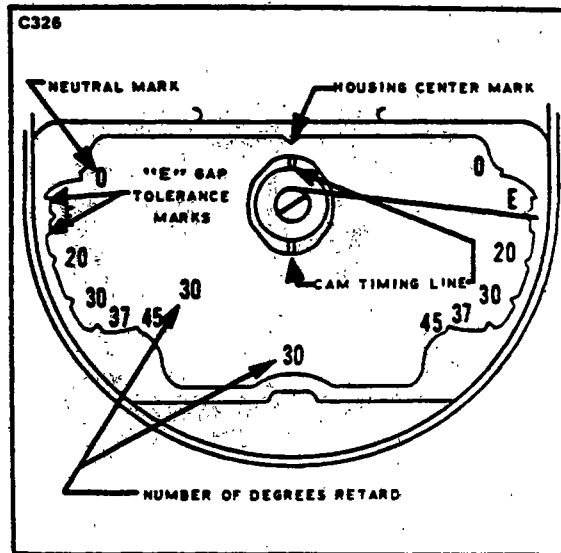

Figure 8-19. Breaker Compartment with Cast Timing Marks
e. If magneto is type which has "cast in" timing marks (-200 series, see Figure 8-19), main breaker may be adjusted with magneto on engine as follows: turn engine crankshaft until notch in cam is aligned with mark at top of breaker compartment. Set wire pointer in center of the "E" gap boss at the side of breaker compartment. Connect timing light across main breaker. Adjust main breaker contacts to open at this point. Turn engine crankshaft until cam follower is on the high point of the cam lobe. Measure contact clearance. It must be  $.018 + .006$ . If necessary, readjust breaker and recheck to be sure that contacts will open within "E" gap tolerance  $+ 4 \text{ degrees}$ . (Width of "E" gap boss.)